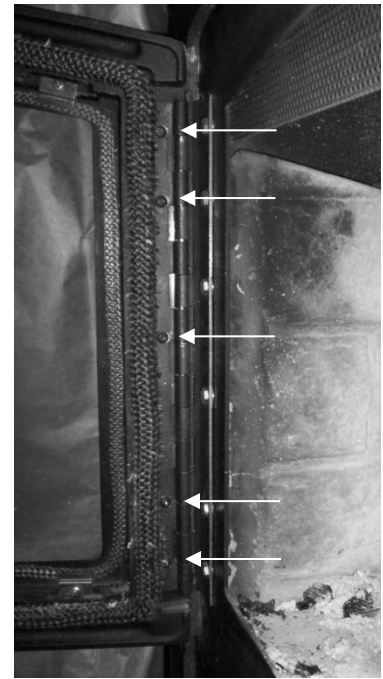

Figure 5 Hinge Adjustment on the Door
1. To tighten the left side of the door, slightly loosen the screws holding the hinge to the door (see Figure 5).